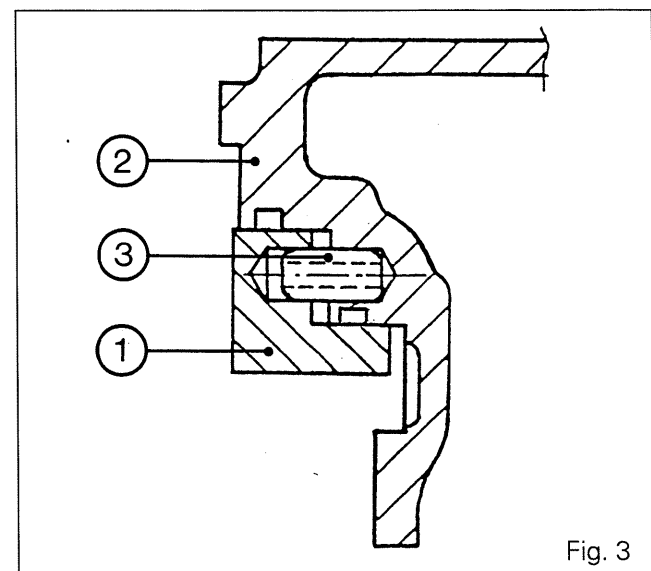

Fig. 3
5. Fit the pistons (1) without seals in the housing (2) (Fig. 3) and check that it slides freely in the bore in the housing and over the dowels without any friction points.